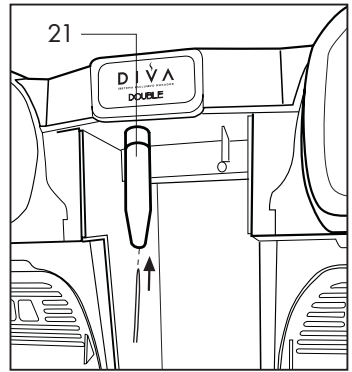

Fig. 12
- Replace the central drawer (Fig. 12)